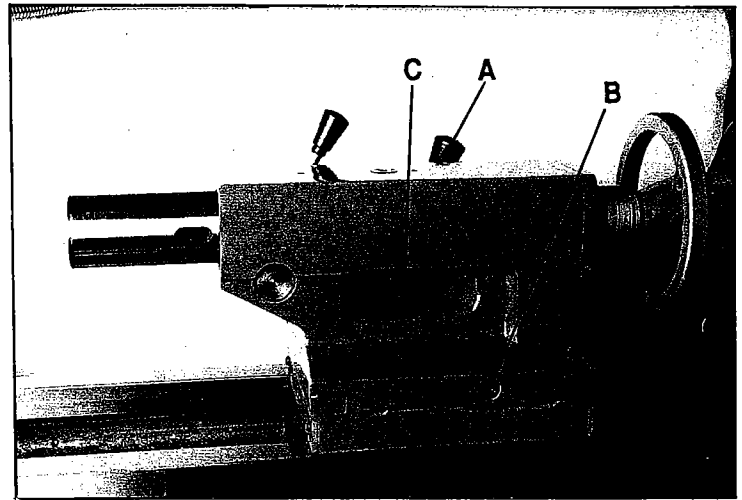

Fig. 28
4. Tailstock can be more firmly locked by tightening nut (C, Fig. 28). Nut will have to be loosened before releasing clamping lever.
1. Loosen tailstock in position by lowering locking handle (A, Fig. 28).
3. Alternately loosen and tighten front and rear hex socket cap screws (B, Fig. 28).